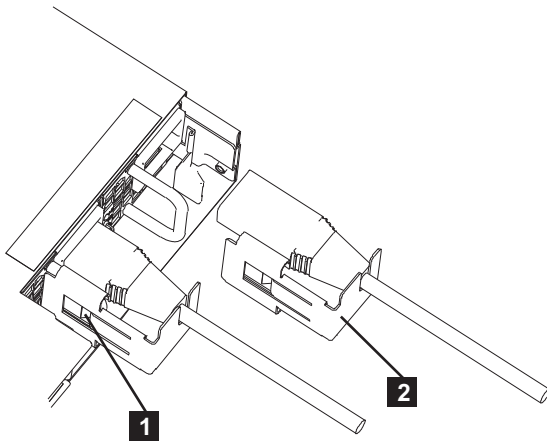

Figure 42. Cable-retention brackets
The node uses two toolless cable-retention brackets. One retains each cable from the uninterruptible power-supply to one of the two power supplies, as shown in Figure 42.
4. Align the cable-retention bracket on the power cord so that the bracket is to the left of the cord, as shown by **2** in Figure 42.